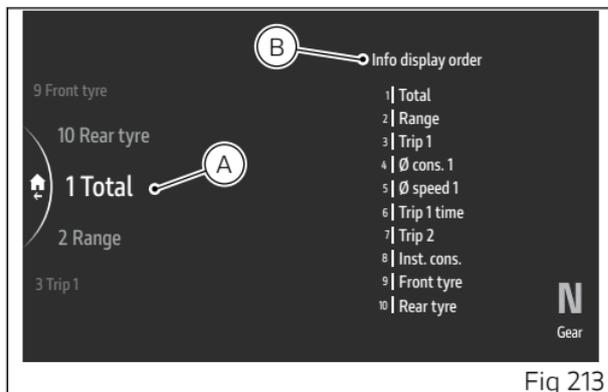

Fig 213
The list of the 10 selectable items, with the number of their current position (A, Fig 213) is displayed in the middle. The current order of the Info display (B, Fig 213) is displayed on the right-hand side.
- Use the joystick ▲ ▼ to select "Total" and press ENTER (Fig 213).
To restore the original order, select the "Default" item and press ENTER: "Wait..." is displayed for a few seconds followed by "Restored". Then, "Default" item disappears from the menu list, while the positions of the items and the current order of the Info display are restored to their original conditions (Fig 213).